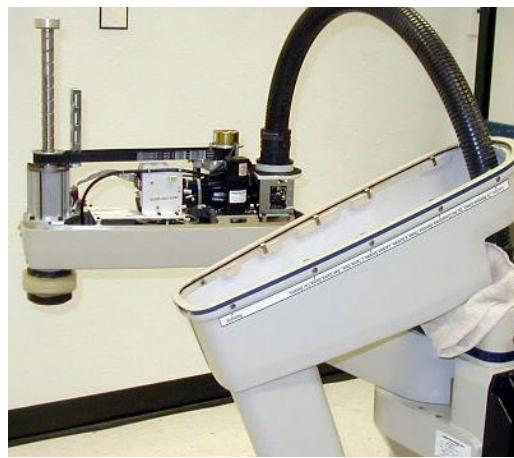

Figure 8-9. IP-65 Robot with Outer Link Cover Removed
7. When all 8 screws are loose (but not removed), lift the cover up and slide it back along the cable track and out of the way. Protect the cover with a soft cloth or other padding material so the cover does not get scratched. See Figure 8-9.